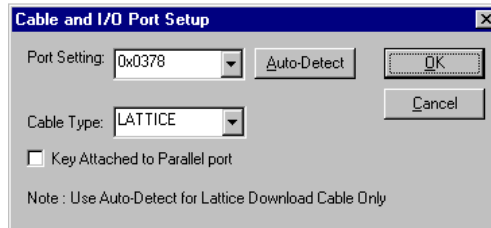

Figure 3-7. Cable and I/O Port Setup dialog
- Choose **Configuration** ⇒ **Cable and I/O Port Setup...** to open the Cable and I/O Port Setup dialog (Figure 3-7).